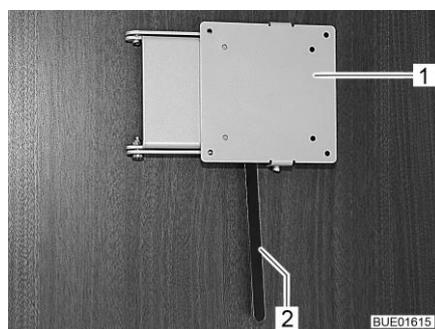

Fig. 87 Holder with release lever
- Push the release lever (Fig. 87,2) to the side and turn the holder (Fig. 87,1) with the flat screen to the desired position.
- Turn flat screen back until the holder (Fig. 87,1) engages in the lock.